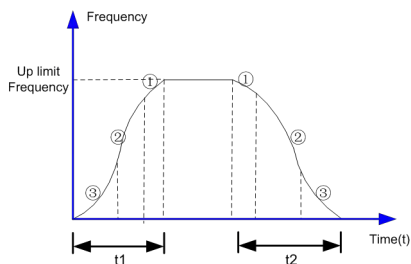

Figure 6-4
**1: S-curve acceleration/deceleration.** The output frequency increases or decreases along the S curve, showing in figure 6-4.
In Figure 6-4, ③ is the time defined in P1.14, within which the slope of the output frequency change increases gradually. ① is the time defined in P1.15, within which the slope of the output frequency change gradually decreases to 0. Within the time between ① and ③, the slope of the output frequency change remains unchanged, that is, linear acceleration/deceleration.